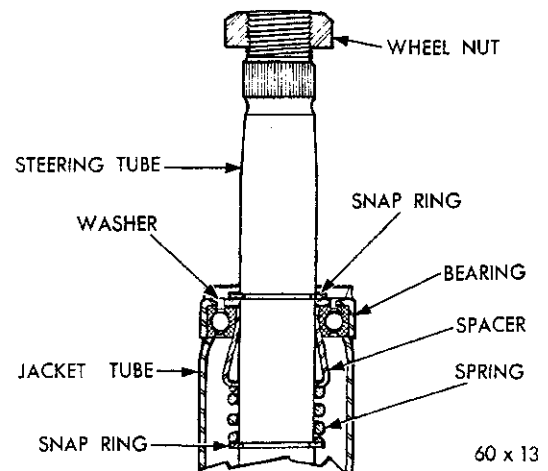

Fig. 28—Jacket Tube Installation SC-1, SC-2, SC-3, SY-1
(15) Remove the retainer snap ring (Fig. 28) from the groove in the steering tube at the top of the bearing using pliers Tool C-3229.
(16) Remove the jacket tube shield to allow access to the column tube clamp and remove the screws attaching the steering jacket tube clamp at the instrument panel and remove the clamp.
(17) Raise the carpet to expose the floor panel. Move the rubber grommet up on the jacket column.
(18) Remove the screws attaching the rubber dust boot at the firewall. (On Imperial cars, remove the floor inspection panel.)
(19) Loosen the jacket tube clamp at the steering gear housing.
(20) Remove the cotter key and nut at the drag